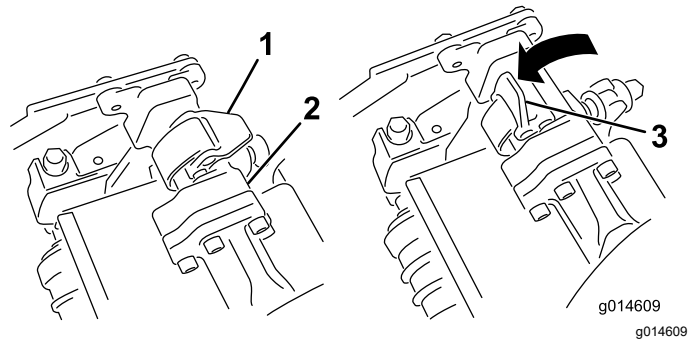
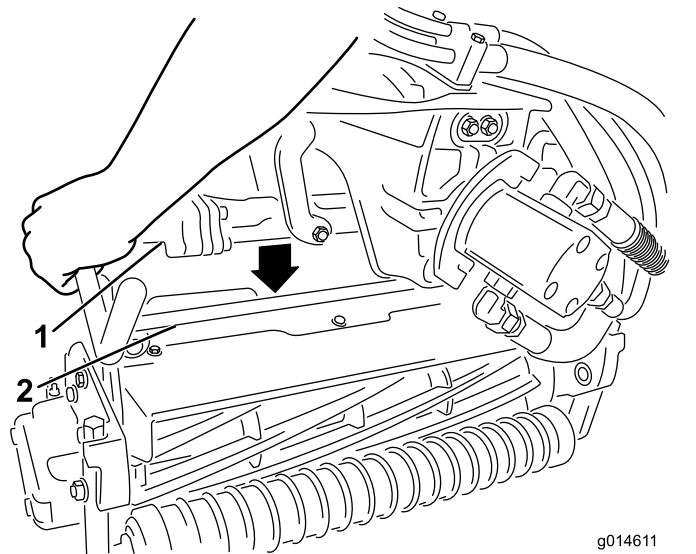

Figure 54
Figure 55
4. Open the latches on the suspension-arm bar (Figure 54) and push the suspension arm down so that the bar fits over both pitch arms on the cutting unit and ensure that the latches go underneath the cutting-unit crossbar (Figure 55).
5. Close the latches down and around the cutting-unit bar and lock them in place (Figure 54).
6. Open the latches on the suspension-arm bar of the cutting unit you are removing (Figure 54).